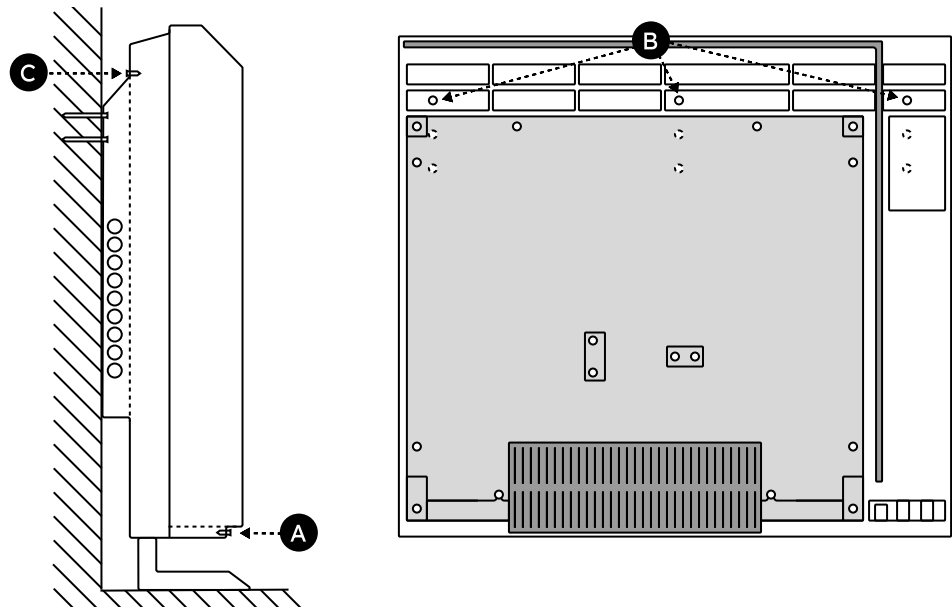

Figure 2 | Installing the anchoring screws
3. Remove the screws near the base **(A)**. Larger models will have 3 screws. Remove the front panel by sliding the panel up and off the slotted screws at the top of the radiator. **(Figure 2)**